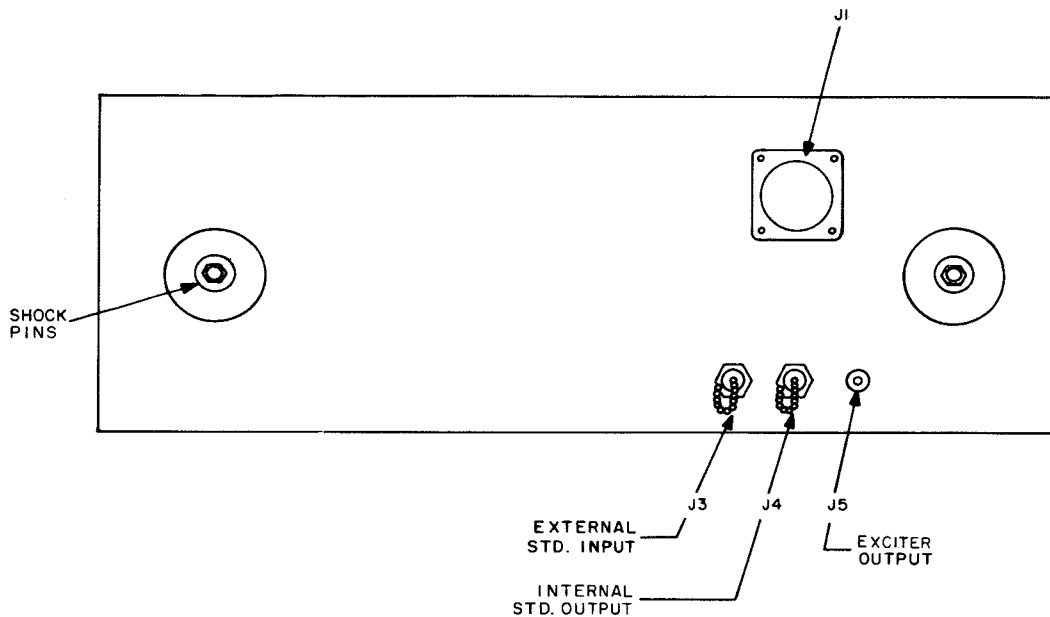

Figure 1-1. Exciter SC-910E, Rear View
1.5.3 Installation Layout. The Exciter should be installed as close to the power amplifier as possible to minimize RF lead lengths. It may be table mounted or rack mounted in a standard 19-inch rack using adapter plates. AC power, remote control and audio connections should be made through J1 (see figure 1-1), using a type AN3106R36-8S(C) female connector, as indicated in figure 6-1. Exciter output is obtained through J5 using BNC connector type UG88/U and RG58 coaxial cable. An external frequency standard can be connected to J3 to synchronize the Exciter to an external 5 MC frequency. Alternately the internal frequency standard can be used to synchronize additional units or for test purposes using J4.